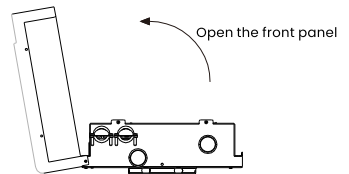

**Fig 4**
**Step 3:** Connect the external water supply pipe (Fig 4).